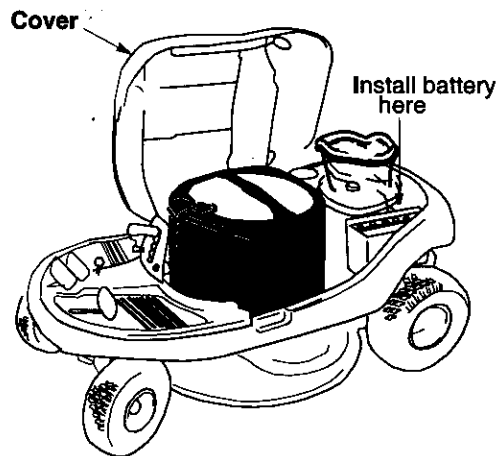

Figure 3
- Pivot the cover of the mower upwards as shown in Figure 3.